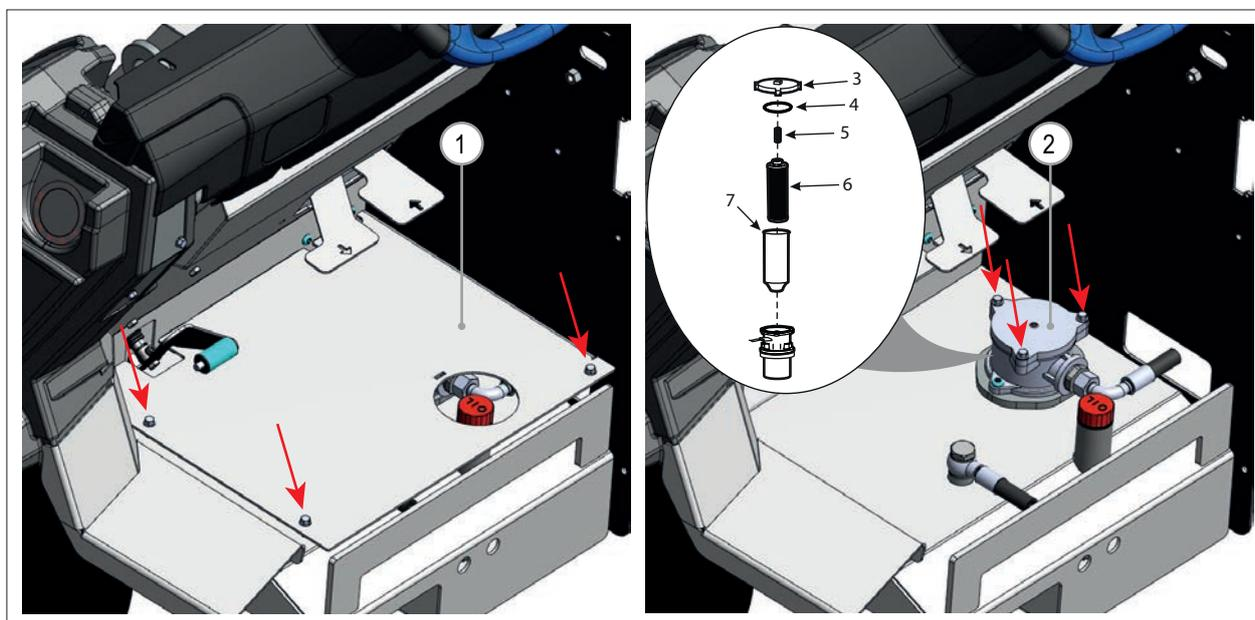

FIG. 35
- 3) Remove the footrest (FIG. 35 - Ref. 1) by loosening the screws that secure it to the frame (see FIG. 35).
- 4) Remove the oil filter cover (FIG. 35 - Ref. 2) by loosening the screws that secure it.
- 5) Remove the spring (FIG. 35 - Ref. 5), and the filter element (FIG. 35 - Ref. 6) from the plastic sleeve (FIG. 35 - Ref. 7).
- 7) Reinstall the spring and inspect the filter cover O-ring for any signs of wear or damage. This O-ring is located in a groove at the top of the filter body (FIG. 35 - Ref. 4). Replace the O-ring in case of wear or damage.
- 8) Reinstall the filter cover (FIG. 35 - Ref. 2) and secure it.